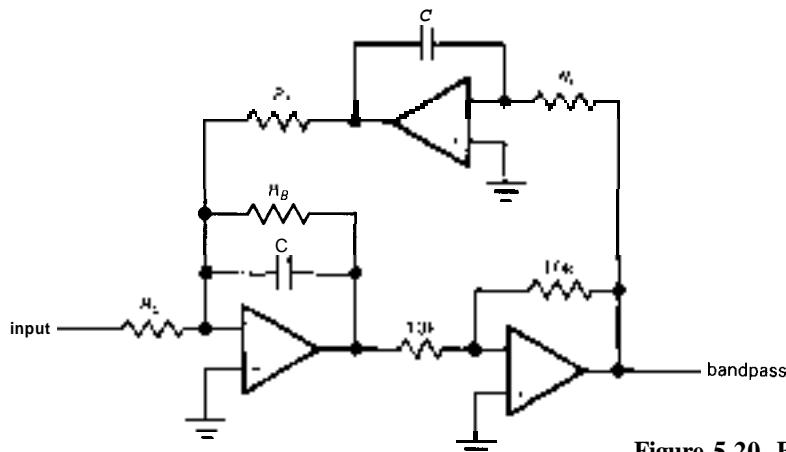

Figure 5.20. Biquad active filter.
**Biquad filter.** A close relative of the state variable filter is the so-called biquad filter, shown in Figure 5.20. This circuit also uses three op-amps and can be constructed from the state-variable ICs mentioned earlier. It has the interesting property that you can tune its frequency (via  $R_F$ ) while maintaining constant **bandwidth** (rather than constant Q). Here are the design equations: